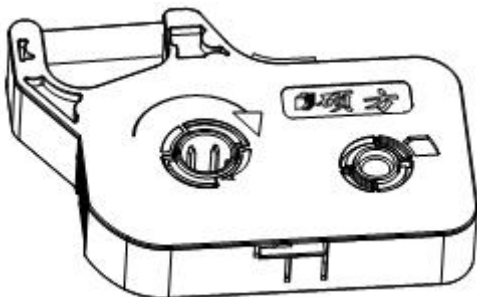

Figure 1 Tighten the Ribbon
- (1) See Figure 1. Tighten the ribbon according to the direction of arrow on ribbon cassette.
- (2) Put the print head in a non-printable position.